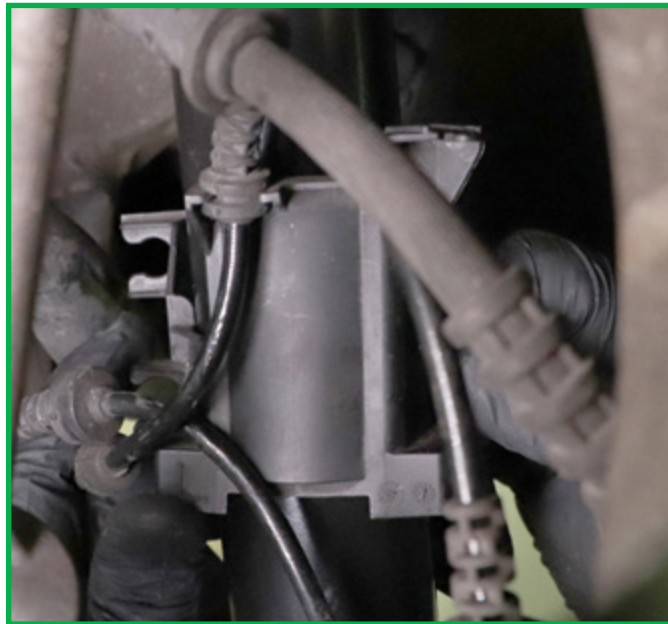

FIGURE 26
7. Reinstall the strut wire harness using the provided zip tie and reroute the lines. (Figure 26)